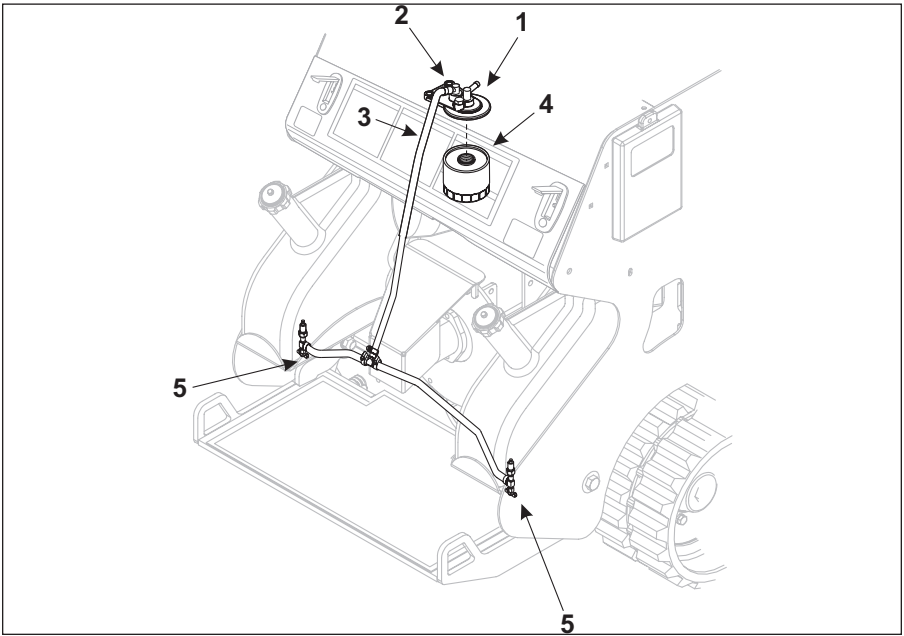

Figure 4-24 Fuel Filter
8. Install a new spin on fuel filter (Item 4, Figure 4-24) as described earlier in this section.
13. Loosen the air bleed bolt (Item 2, **Figure 4-24**). DO NOT remove this bolt.
14. Raise and lower the primer pump handle (Item 1, **Figure 4-24**) until only diesel fuel without any air bubbles comes out of the air bleed.